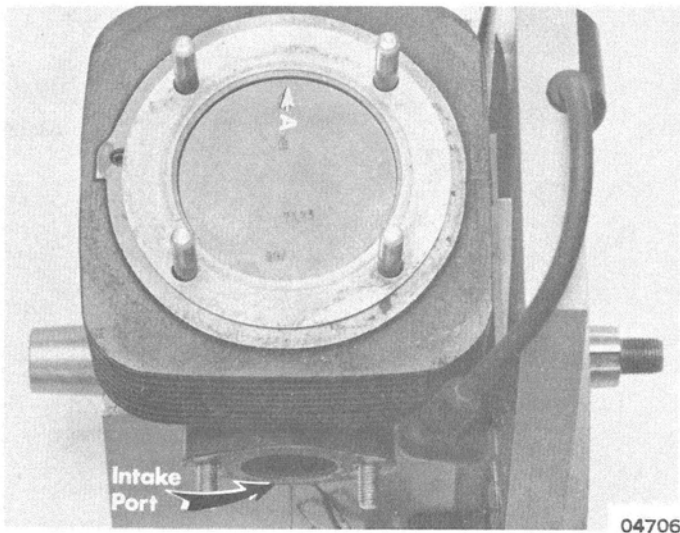

Figure 7. Piston Installation
2. Position piston with arrow to front of engine. (Figure 7) Push piston pin into piston and connecting rod with Piston Pin Tool (C-91-52395).